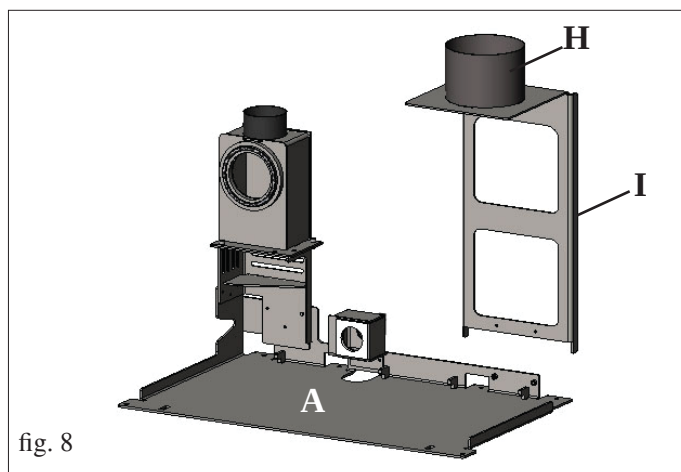
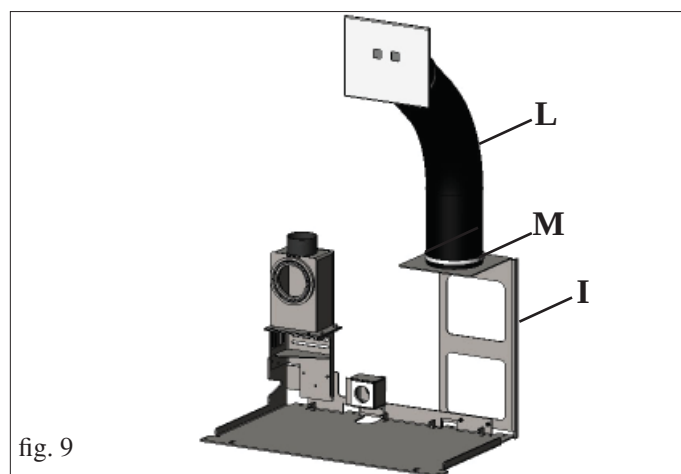

fig. 8
fig. 9
- Install the bracket for centring the pellet loading tube (I – Fig. 8) on the base plate (A).
Fit the pellet loading tube (L - fig. 9) on the collar of the bracket collar (H - fig. 8), securing it with the clamp supplied (M - fig. 8).